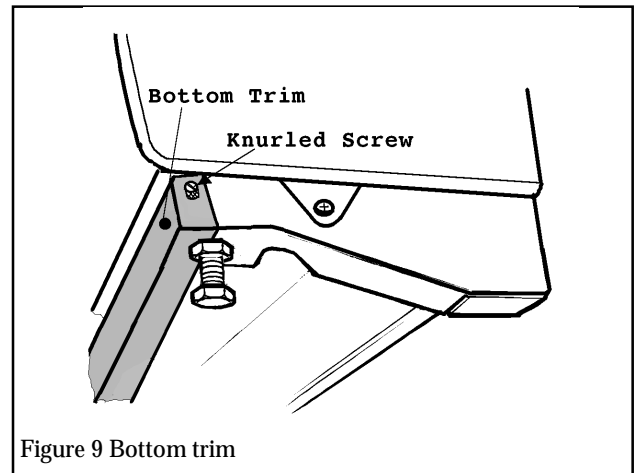

Figure 9 Bottom trim
5.3.1 Fit the bottom trim using the two knurled screws to secure it to the side feet (see figure 9)